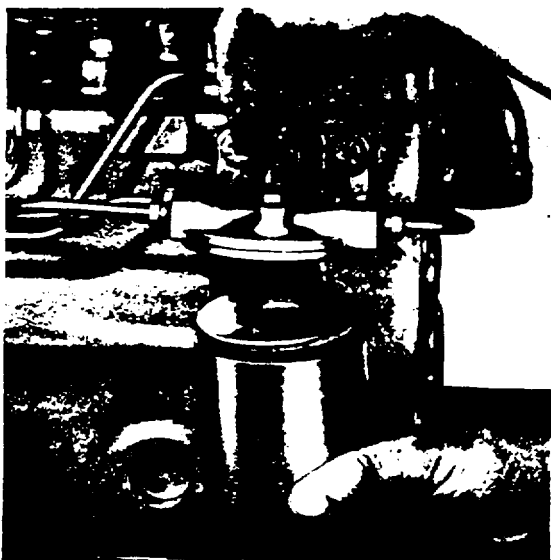

*Fig. N.1.
2. Unscrew the bolt in the centre of the filter top cover (see Fig. N.1).